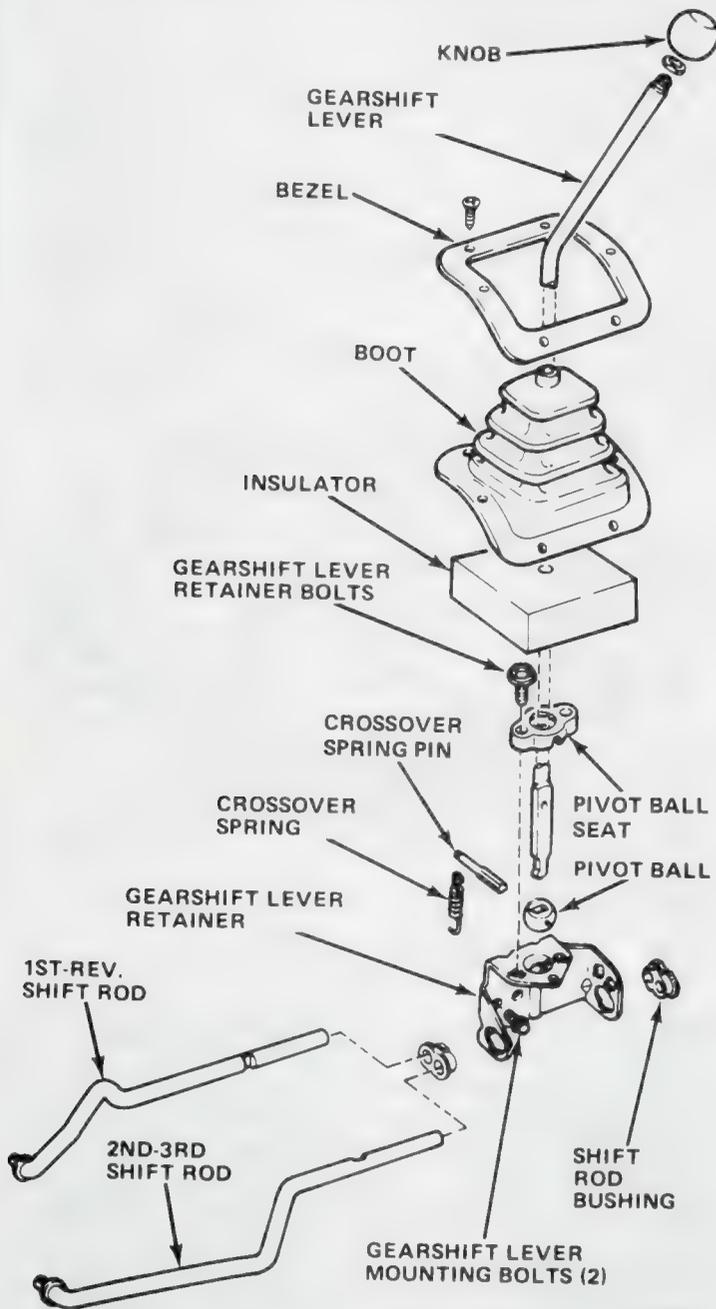

Fig. 2B-3 Gearshift Linkage—Model 150T
- (1) Remove transmission shifter levers from shift fork shafts (fig. 2B-4).
- (2) Remove lower extension housing bolt (fig. 2B-5) and drain transmission lubricant from case.
- (3) Remove top cover and gasket.
- (4) Remove TCS switch from left side of case, if equipped, and remove backup light switch from left side of extension housing (fig. 2B-4).
- (5) Remove long detent spring from case detent bore (fig. 2B-4).
- (6) Remove upper detent plug from detent bore with magnet or tip case on side and allow plug to fall out. Do not lose plug.
- (7) Remove extension housing and gasket.
- (8) Remove speedometer drive gear retaining snap ring from output shaft and remove gear and lock ball.